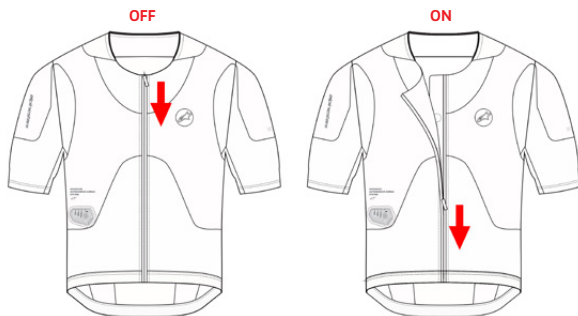

Figure 11: System Turns Off When the Activation Zip (2) is Open
The User can easily turn the System off by opening the Activation Zip (2). The System will automatically shut down approximately 1 second after unzipping the Activation Zip (2) (Figure 11).
To keep the System turned off, make sure the Activation Zip (2) remains open and unzipped as shown in Figure 11.